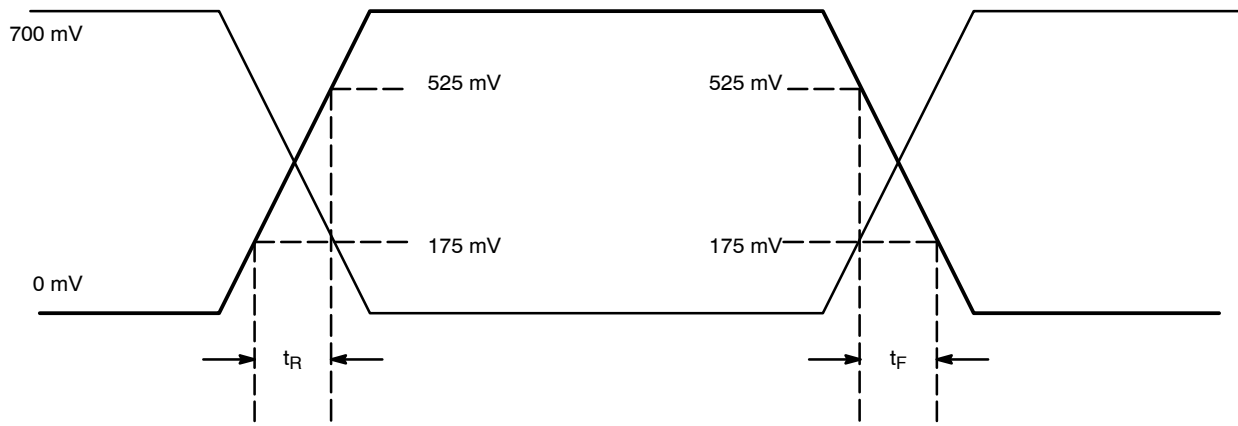

Figure 11. HCSL Output Parameter Characteristics
18. VDDXD and VDDODA power pins must be shorted to power supply voltage  $V_{DD}$  and GNDXD and GNDODA ground pins must be shorted to power supply ground GND. Measurement taken from differential output on single-ended channel terminated with  $R_S = 33.2 \Omega$ ,  $R_L = 50 \Omega$ , with test load capacitance of 2 pF and current biasing resistor set at 475  $\Omega$ . See Figure 11. This parameter is guaranteed by characterization. Not tested in production.